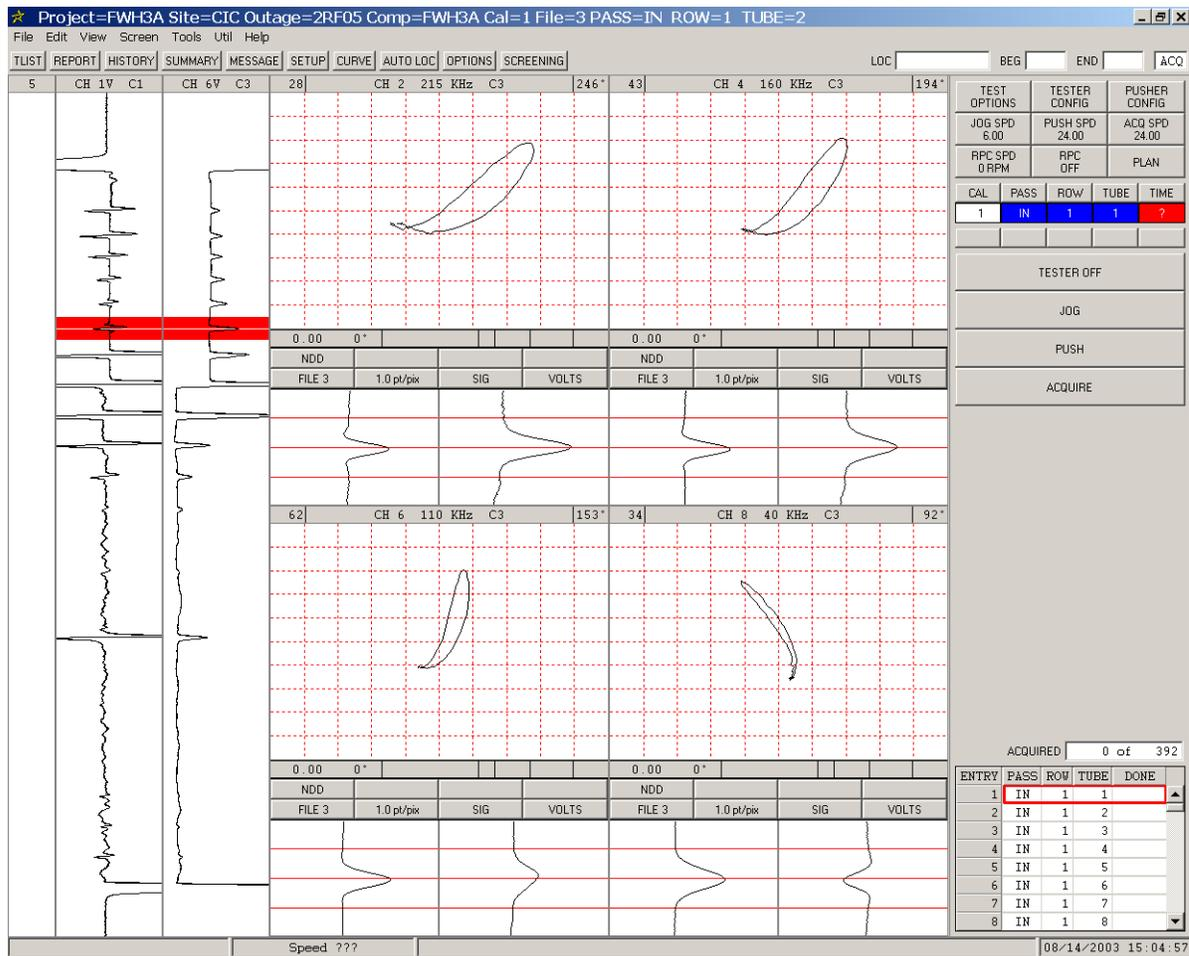

Figure 10-19. Acquisition Screen - Setting Absolute Span Levels
- STEP 27:** Repeat the 2 steps above for the remaining absolute channels (4, 6, & 8). The signal *Span* or *size* should appear similar to Figure 10-19.